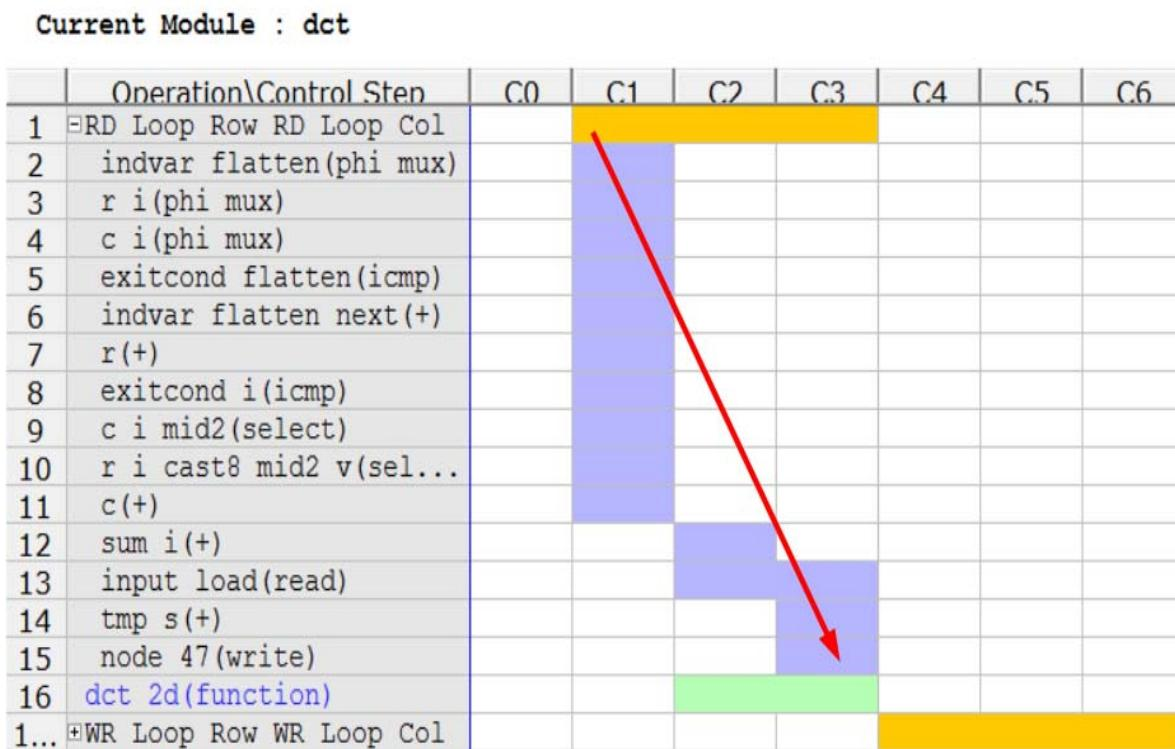

Figure 6-22: Analysis of DCT RD_Loop_Row
9. In the **Performance** view, expand the first loop in the design as shown in Figure 6-22, `RD_Loop_Row_RD_Loop_Col` (these loops were flattened and the name is now a concatenation of both loops).
This loop is implemented in two states. The red arrow in Figure 6-22 shows the path from the start of the loop to the end of the loop: the arrow is almost vertical (everything happens in two clock cycles) and this loop is well implemented in terms of latency.